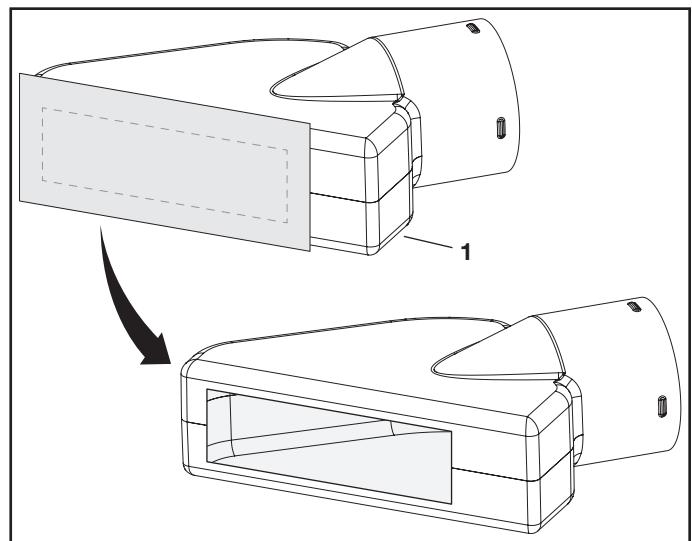

FIGURE 2
STEP 2: (SEE FIGURE 2)
- Tape the template to the face of the deck adapter (1), about 1/2" from front and 1/4" down from top for deeper decks. For shallow decks, position template low enough that adapter will not extend below bottom of deck. Mark outline of template on face of adapter using white crayon, nail or scribe.